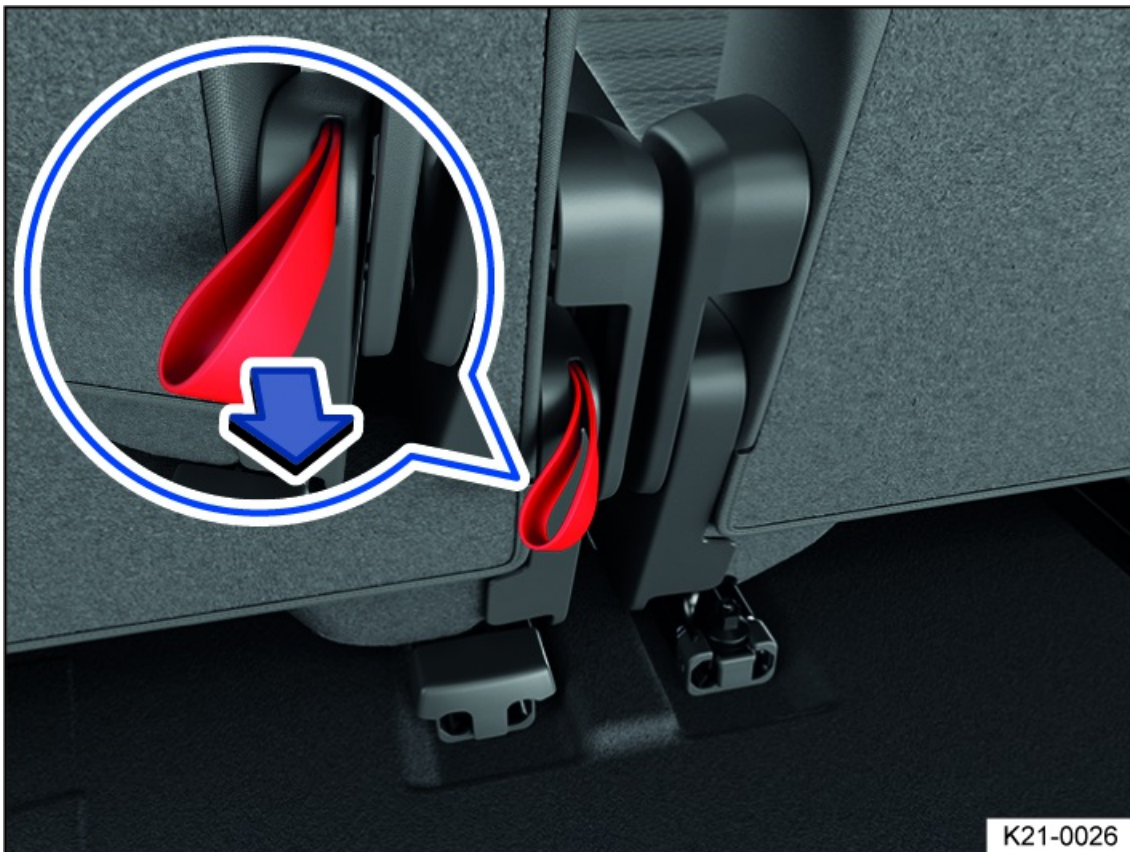

Fig. 74 Second row seats: loop for third row seat emergency exit function.
1. Pull the loop *fig. 74* back and fold the rear seat backrest forward.